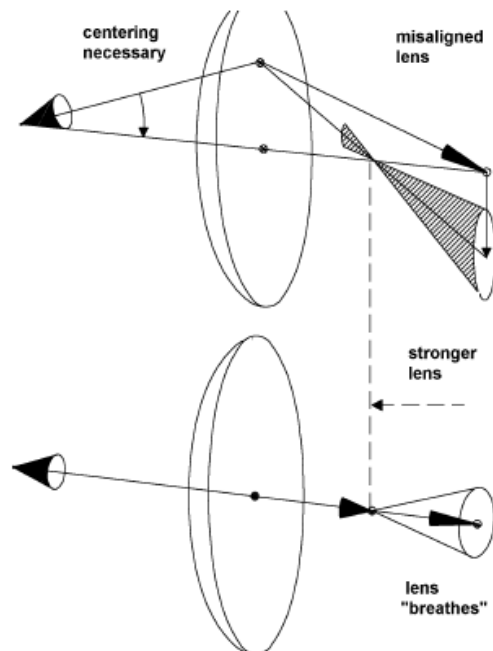

Figure 6.1. Motion of aligned and misaligned fiducial markers [Reference: Elmitec PEEM III manual]
- Adjust the manipulator X, Y until the fiducial feature is stationary, coincident with the centre of the wobble (**Figure 6.1**). The image should “breathe” around the fiducial marker.